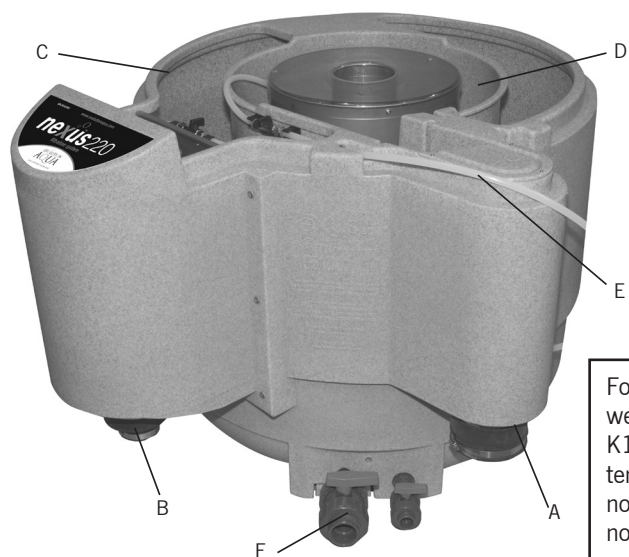

Figure 14.
1. Connect the pipework from your pond to the EasyConnector on the Nexus Inlet (A).
2. Connect your water pump to the 4" - 2" EasyConnector (B) on the outlet using suitable pipe work. A valve should be positioned between the pump and the Nexus, to isolate the Nexus during cleaning.
3. Pour the 50L K1 Media bag into the outside chamber (C) of the Nexus (Figure 14).
4. Connect your air pump to the Nexus air inlet (E).
6. Connect the waste valves (F) to your waste outlet.